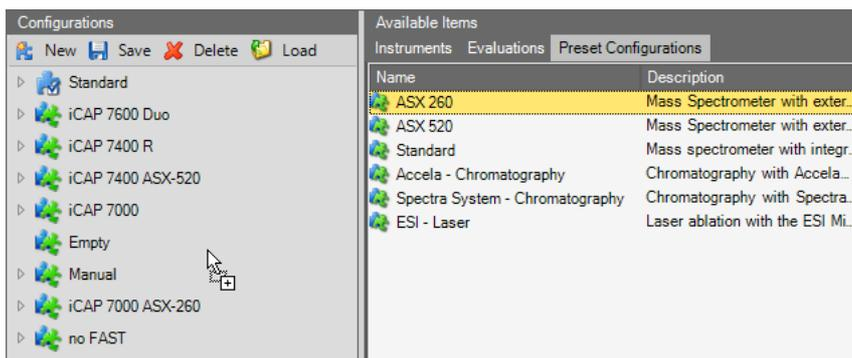

Figure 3-15. Selecting a preset Configuration
3. Drag the preset Configuration to **Configurations**, see Figure 3-15.